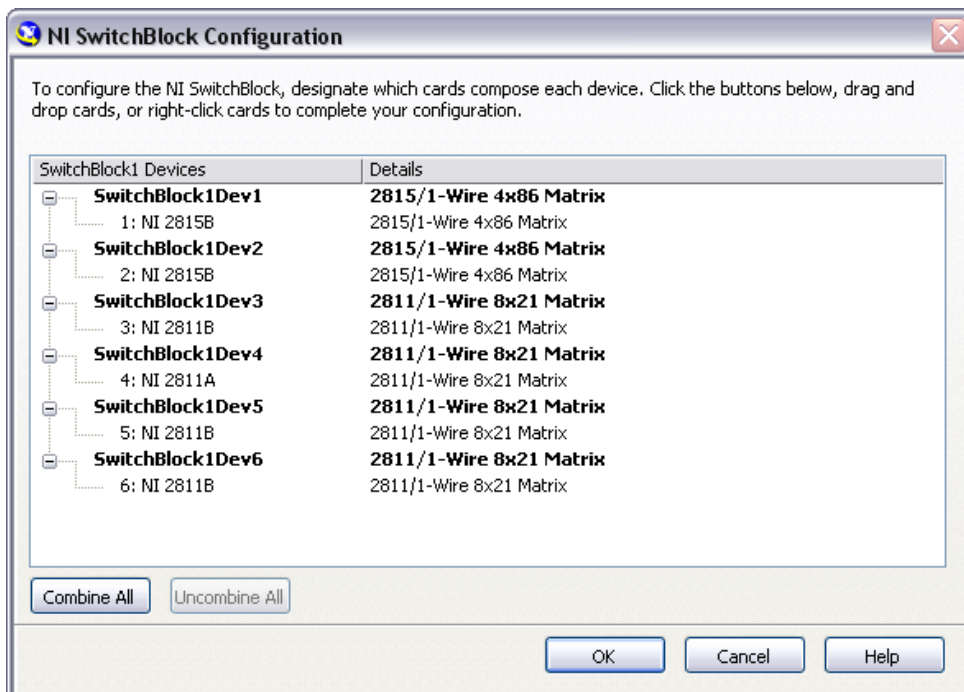

Figure 6. NI SwitchBlock Configuration Panel at Startup
6. By default, all NI SwitchBlock cards in the carrier appear as single-card devices, as shown in Figure 6. Use one or more of the following methods to designate which cards compose each device: